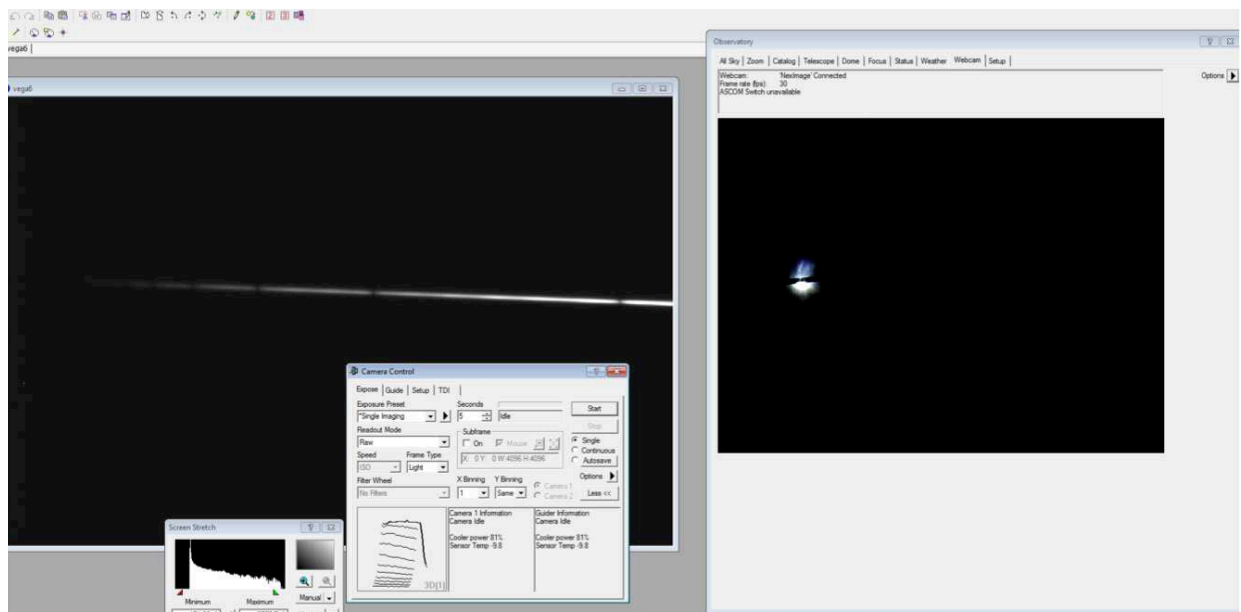

Figure 44: Commissioning image of Vega spectrum.
- **acquire spectrum** with ST-1603 (see Fig. 44)